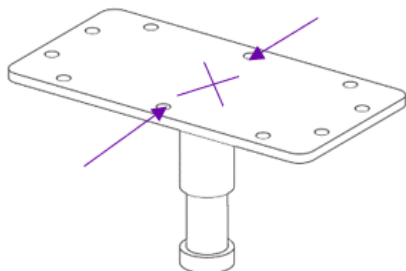

Figure 3: Ceiling Plate Template
1. Use a stud finder to locate a ceiling joist in the area that you have selected to place your **ORBIT**. Hold the **Ceiling Plate** (Part #4) on that area and mark two opposing holes that match the plate holes in line with the ceiling joist marking. We recommend two that are in the middle of the long sides of the plate as shown in Figure 3. Mark an “X” where the pin should be located. From this center point (location of pin coming out of the plate), measure the space requirement distances from your chosen Arm Configuration (Normal = 50 in/127cm, Long Arm = 80in/203cm, and Super Arm = 53 in/135cm,)